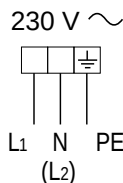
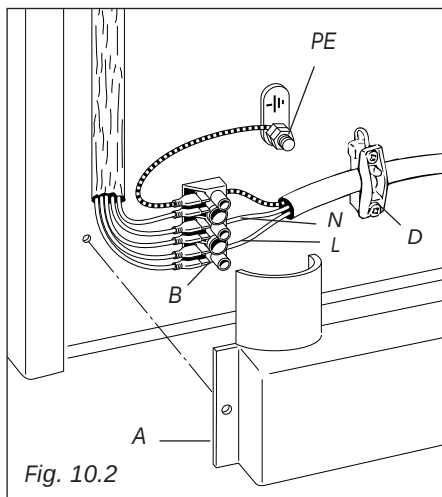

Fig. 10.3
Fig. 10.2
- Remove the screws securing the cover "A" on the rear of the cooker (fig. 10.2).
- Connect the wires to the terminal block "B" as shown in the diagram in figure 10.3; or connect the phase wires to the terminal block "B" and the earth wire to the terminal PE as shown in figure 10.2.